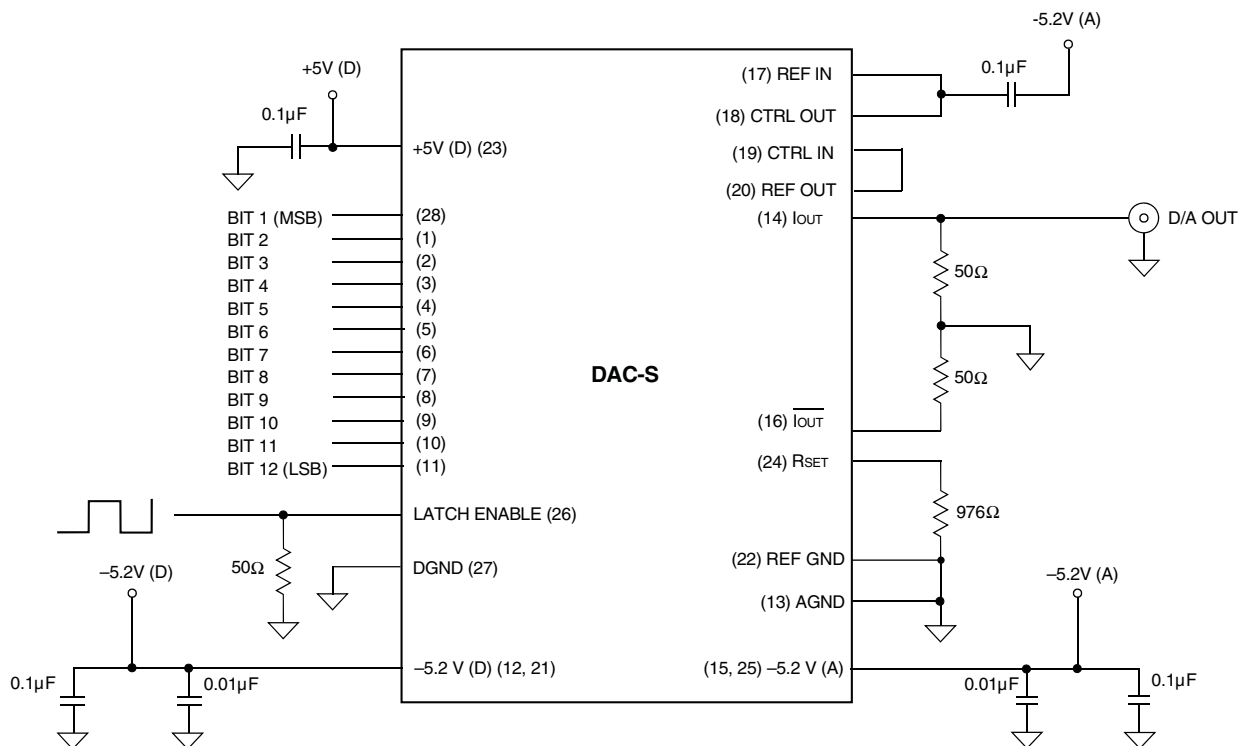

Figure 2. Typical Connection Diagram
The internal 12-bit register is updated on the rising edge of the Latch Enable (pin 26). To minimize reflections and noise at high clock speeds proper termination techniques should be used. In the PCB layout the clock runs should be kept as short as possible and have minimal loading. The PCB should employ a controlled characteristic line impedance (Z0) of 50 Ohms. A shunt termination resistor, equal to Z0, should be placed as close to the CLOCK pin as possible, see Figure 2. The rise, fall and propagation delay times will be effected by the shunt termination resistor.
The sum of the two currents is always equal to the full scale current minus one LSB. See Table 1. The output can be converted to a voltage through a load resistor, typically 50 Ohms. Both current outputs should have the same load resistance value. See Figure 2. The output voltage generated is:
In order to reduce power supply noise separate -5.2V analog and digital power supplies should be used. The power supply lines should be bypassed with 0.1µF and 0.01µF ceramic capacitors placed as close to the -5.2V analog pins (15, 25) and digital pins (12, 21) as possible. The analog and digital power supply ground returns should be connected at one point as close to the power source as possible. The +5V supply pin (23) should be bypassed with a 0.1µF ceramic capacitor connected as close to the pin as possible. See Figure 2.
The internal reference is a -1.23V, typical, bandgap voltage reference. The internal reference is connected to Reference OUT (REF OUT, pin 20) and the internal control Amplifier (CTRL IN, pin 19). The control Amplifier OUT (CTRL OUT, pin 18) should be connected to Reference IN (REF IN, pin 17) and to -5.2V (pin 15) Analog Supply through a 0.1µF ceramic capacitor (as shown in figure 2) in order to improve the settling time This reduces switching noise and improves output settling time. The Full Scale Output Current,  $\overline{I_{OUT}}$  (pin 14) and  $I_{OUT}$  (pin 16), is controlled by the REF OUT (pin 20) voltage and the RSET (pin 24) resistor through the following equation: